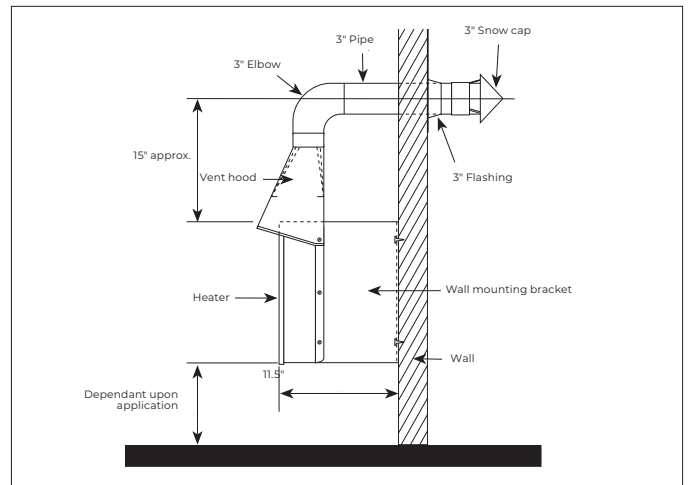

Figure 6 – Ventilation from heater
3. To reduce the carbon dioxide and water vapor concentrations in the building, a vent hood assembly can be installed to provide positive ventilation from the heater (Figure 6, page 6).